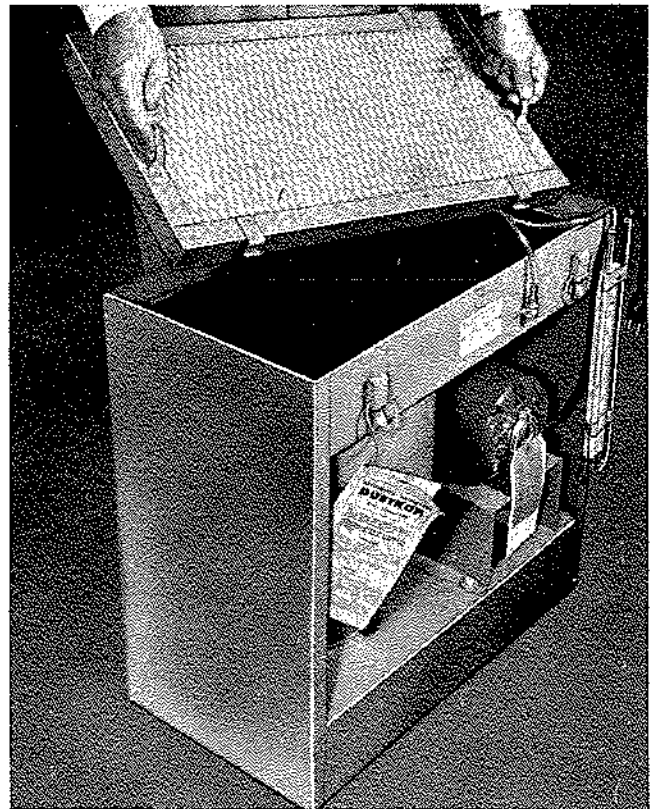

Figure 29. Dustkop and Filter Removed
2. Release the four toggle fasteners and remove the filter frame from the unit (see figure 29).